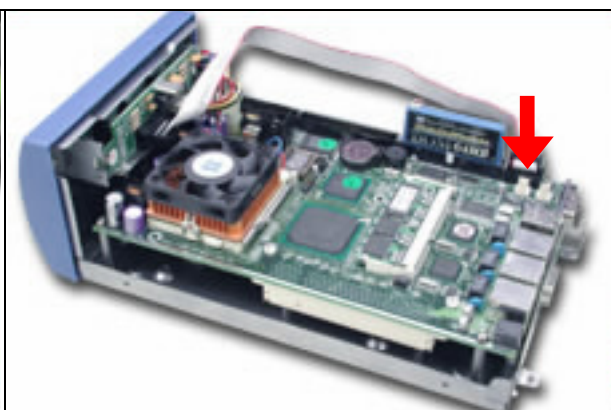

Fig. 2-37 Plug the EZIO COM port connector to COM port
5. Plug the EZIO-COM port cable to both ends (*Fig. 2-37*).